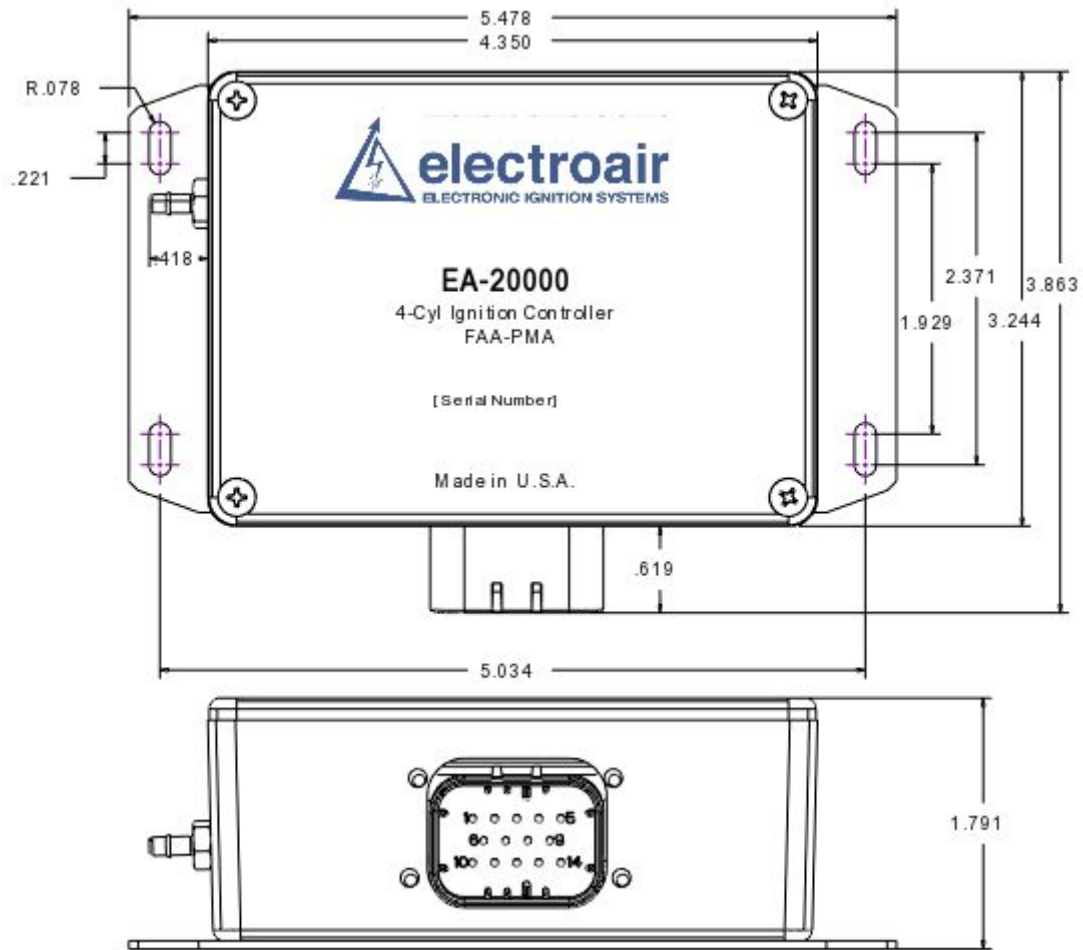

Figure 13: P/N EA-20000 Overall and Hole Dimensions
- a. **EA-20000 Installation:** Install p/n EA-20000 EIS Controller where temperatures will not exceed 150°F. Because of this, Electroair recommends that the EIS Controller be mounted on the cockpit side of the firewall with the shortest practical distance from the coil pack for the wiring harness runs. Reference Figure 13 for controller dimensions.